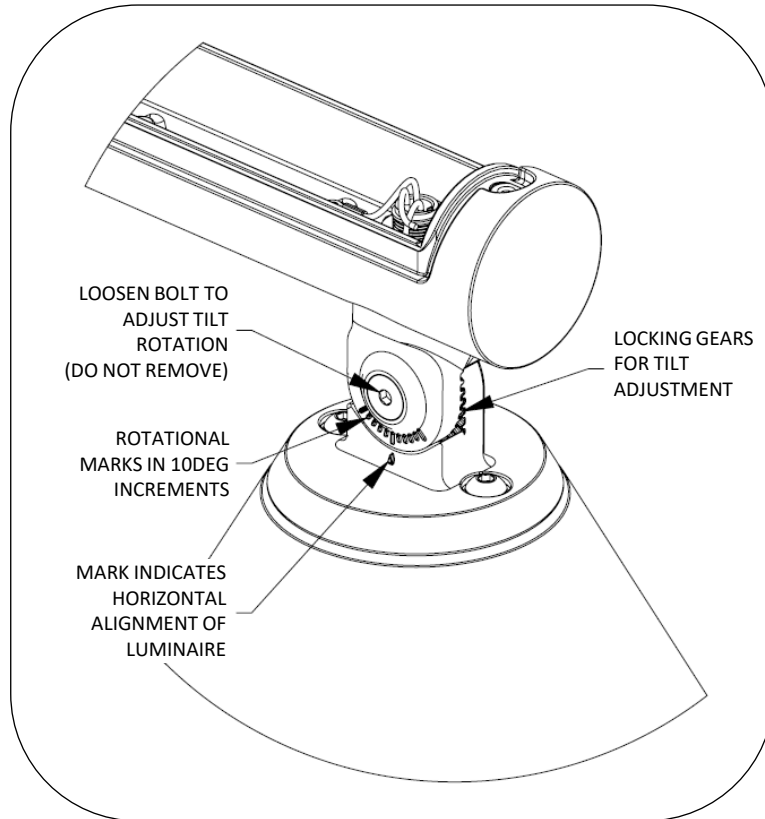

Fig. 10 – ADJUST TILT ROTATION (ACCENT LUMINAIRE ONLY)
1. Loosen bolt, see Fig. 10, until gears are free to rotate. Do not remove bolt. Rotate as needed. Gears are set at 10deg increments. Once luminaire is in correct position, tighten bolt.